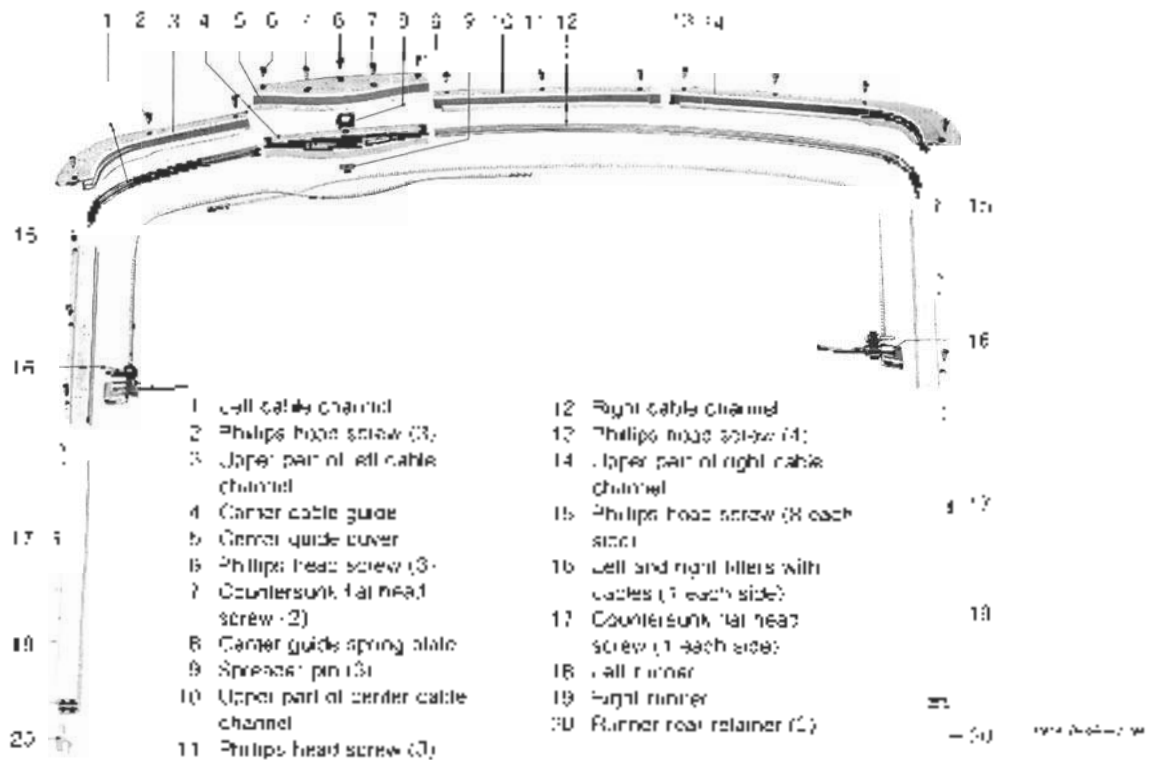

Fig. 8-2. Runners, cables and related parts
- 2 Working through the roof opening, remove the eight Phillips head screws and the single countersunk screw that hold the left runner on the body. (The runners and related parts are shown in Fig 8-2.)
In removing and installing the runners, cables, and other parts shown in Fig. 8-2, be careful not to scratch the paint on the roof. To prevent rust, touch up any paint scratches that you find.
- 5 Position the cables as shown in Fig. 8-2.